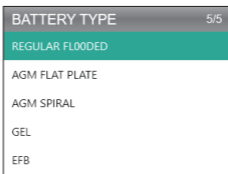

Figure 4.2.3
3. Select the corresponding battery type and press [OK] (See Figure 4.2.3). The specific battery type is usually listed on the battery label.